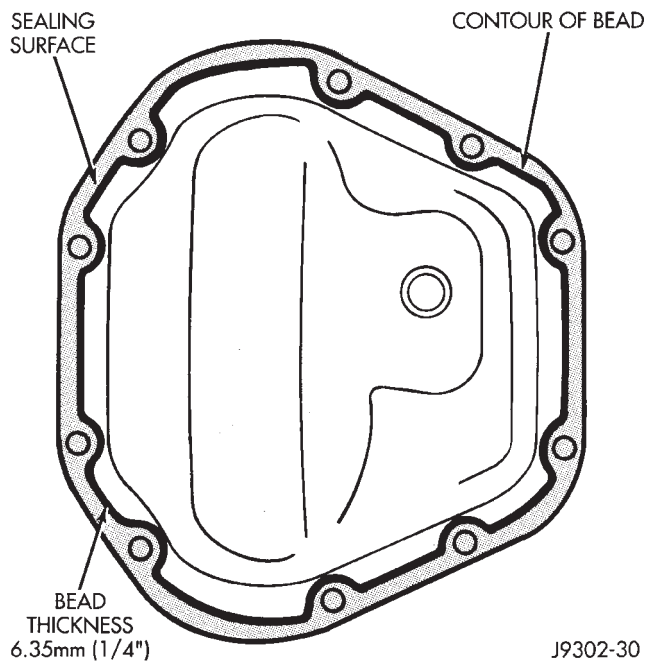

Fig. 1 Typical Housing Cover With Sealant
- (1) Raise and support the vehicle.
- (2) Remove the lubricant fill hole plug from the differential housing cover.
- (3) Remove the differential housing cover and drain the lubricant from the housing.
- (4) Clean the housing cavity with a flushing oil, light engine oil or lint free cloth. **Do not use water, steam, kerosene or gasoline for cleaning.**
- (5) Remove the sealant from the housing and cover surfaces.
- (6) Apply a bead of MOPAR® Silicone Rubber Sealant to the housing cover (Fig. 1). **Allow the sealant to cure for a few minutes.**